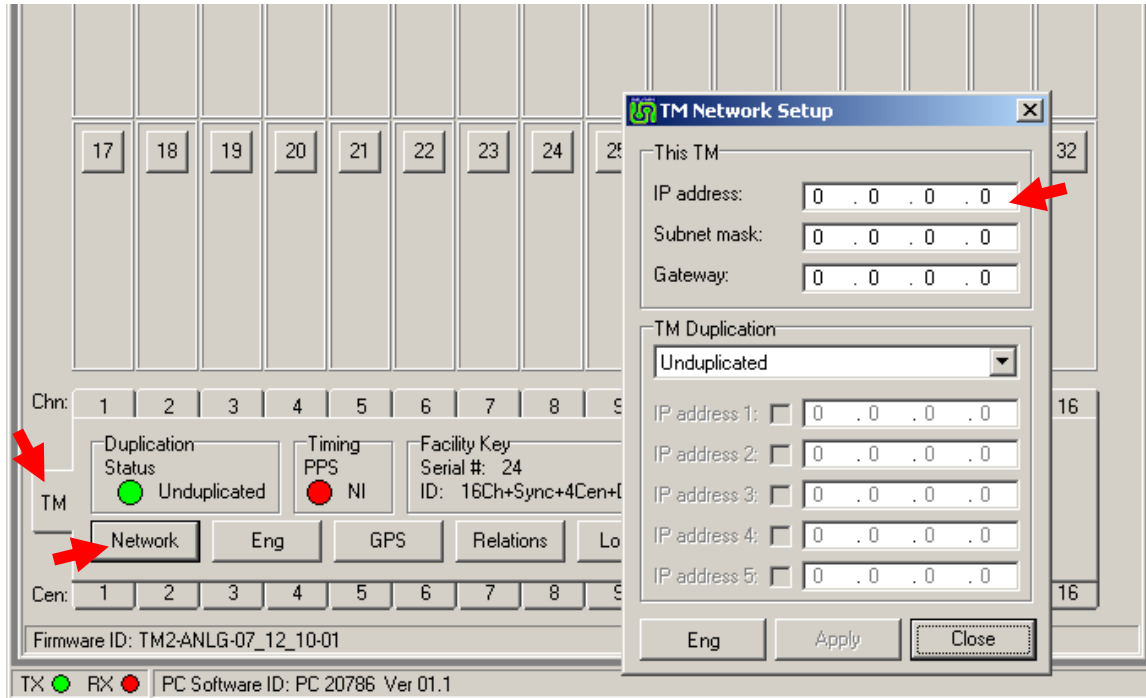

Figure 23. Setting the TM IP Address.
1. On the TM ET window, select the 'TM' tab (indicated in **Figure 23**) to open the view of the TM status panel.